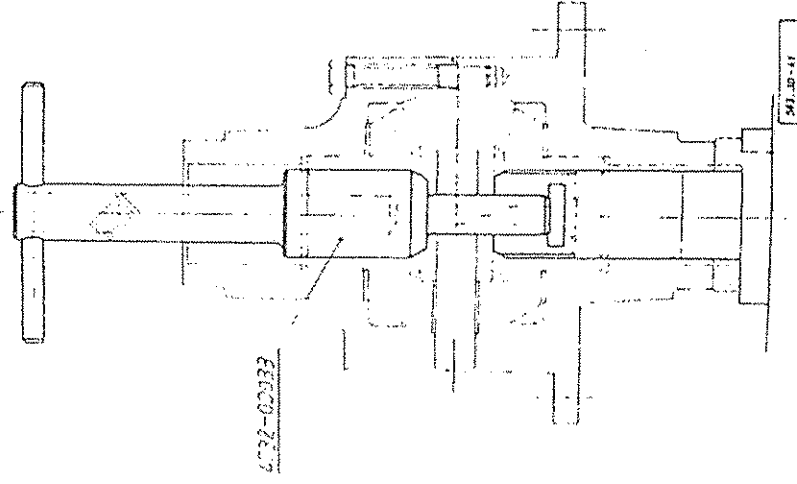

Fig. 2: ASSEMBLING AND CHECKING THE DIFFERENTIAL
Pull the flanged differential case half (31) over the lower service mandrel (see Fig. 2.). Insert the spacer (26) and the differential gear (27) as well as the spider (28) subassembled with shims (30) and differential pinions (29). Following this insert the other differential gear and the spacer.